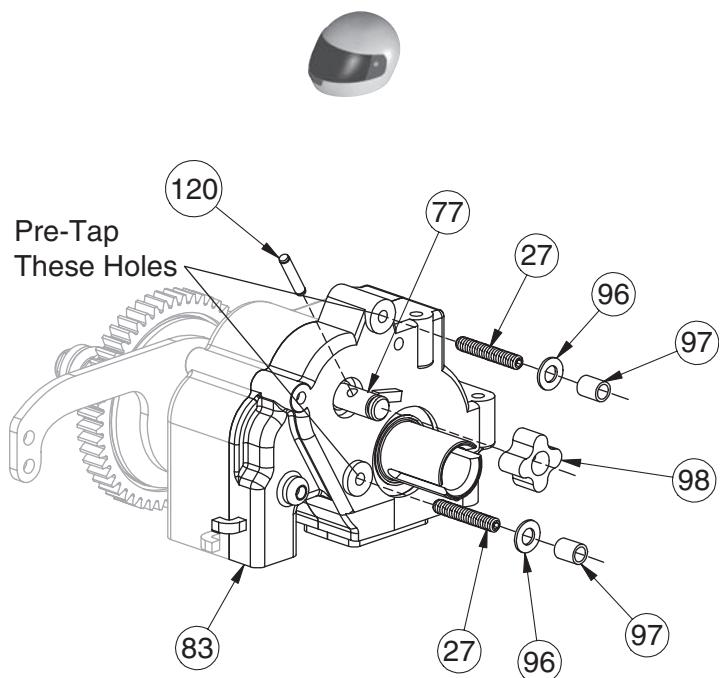

Figure E-16
- 1. Press the 2mm x 8mm Solid Pin (120) into the hole in the end of the Brake Shaft (77) so that it extends evenly from both sides of the Shaft.
- 2. Slide the Brake Hub (98) over the Brake Shaft. Align the groove in the Brake Hub with the Pin and slide the Hub over the Pin.
- 3. Use the short, 4-40 Thread-Cutting Screw, included in the wrench bag, to pre-tap the three holes shown in Figure E-16.
- 4. Thread the two 4-40 x 5/8" Set Screws (27) all the way into each of the two Brake Caliper mounting holes in the left Gearbox Half (83).
- 5. Slip a 1/4" x .020 Washer (96) and a Brake Sleeve (97) over each of the two 4-40 x 5/8" Set Screws.